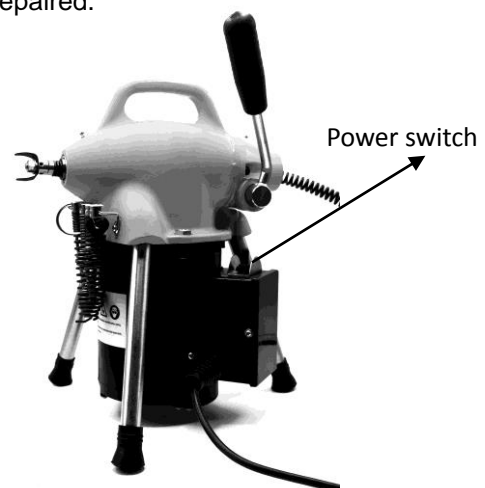

Fig 1
1. Make sure the Drain Cleaning Machine is unplugged and the directional switch is set to the **OFF** position.(Figure 1)